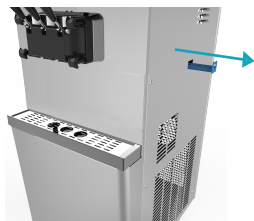

Figure 20
- Check the drip pan on the right of the machine. Pull it out to see if there has too much leaking mix. If there has leaking, then clean it. When the leaking mix is too much, examine the ripple ring and then reinstall it. (See figure 20)